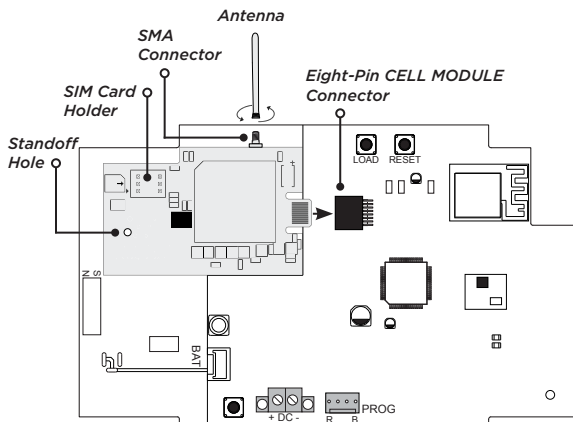

Figure 2: Install the 265HCAN on the XTLplus
4. Align the standoff hole in the 265HCAN with the standoff on the XTLplus and snap it into place. See Figure 2.